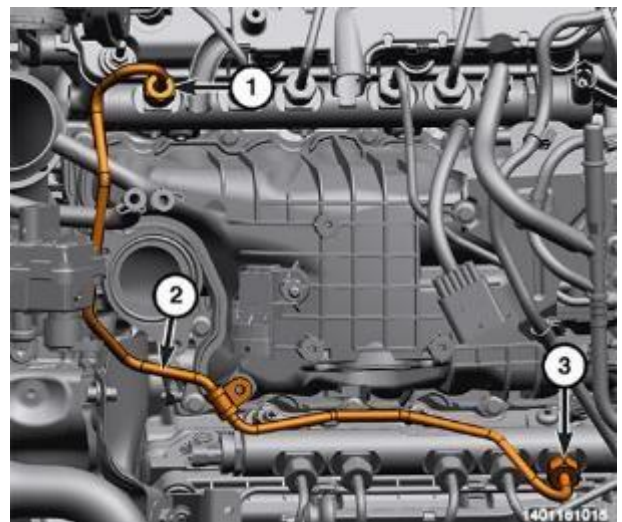

Figure 57 – Crossover Tube
101. Install a **NEW** fuel crossover tube (2) and tighten the union nuts (1, 3) to 11 N·m + 75° (8 ft. lbs. + 75°) (Figure 57).